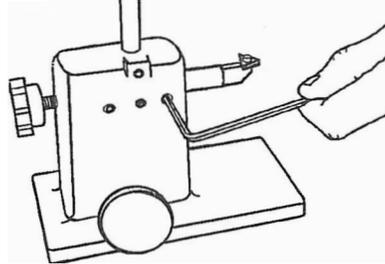
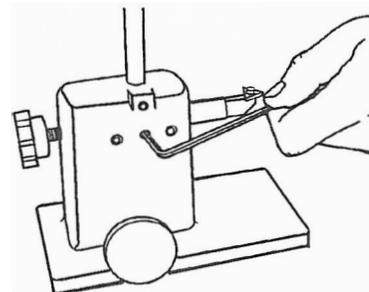

Fig. B-3
Fig. B-5
3. Use a 5/32" Allen wrench to loosen the two cutter support setscrews (43), as seen in Figs. B-3 and B-4. Then make sure the cutter positioning setscrew (42) is lightly seated in the groove of the cutter support (58), as demonstrated in Fig. B-5.